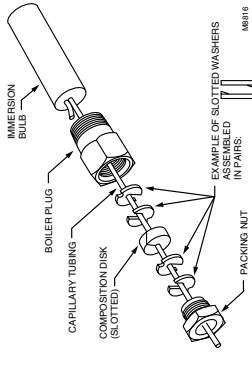

Fig. 4. Capillary compression fitting.
4. Place composition disc and 4 slotted brass washers on tubing in the order shown in Fig. 4. Turn brass washers so that slots are 180 degrees to each other.